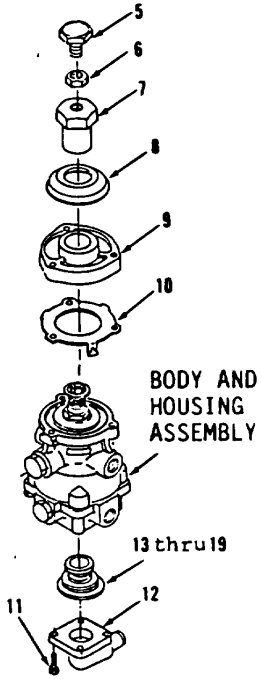

Figure 6-31.
- 18. Install items 19 thru 13 as an assembly (Figure 6-31) into body and housing assembly.
- 19. Install cover (12) and four screws (11) to body and housing assembly.
- 20. Install retainer (10) and spacer (9).
- 21. Install boot (8), plunger (7), nut (6) and screw (5).